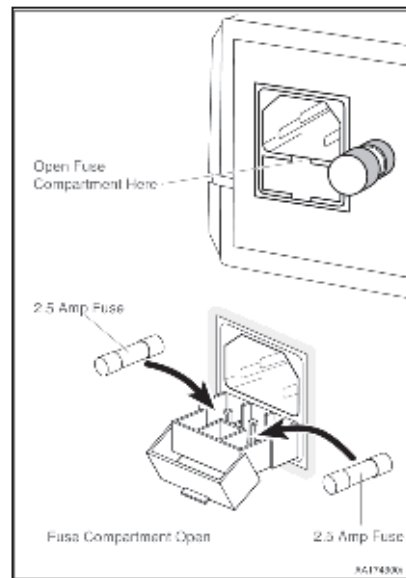

Figure 5 Fuse Replacement
2. Open the fuse compartment, as shown in Figure 5.